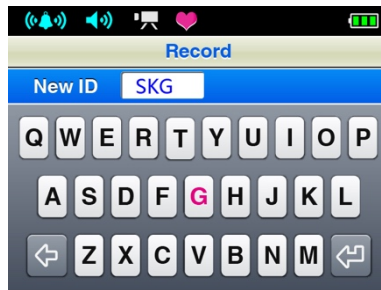

Figure 13. Input ID interface
- a In the record menu interface, move the choice bar to "Record" item, then press left/right button to choose on/off. When displaying "on", press menu button to enter the input ID interface as Figure 13. When recording, choose "off", and press menu button to stop recording.